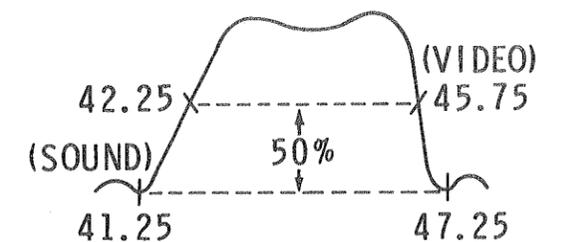

Fig. 12. Video IF response curve.
8. Following the alignment instructions, the adjustments are made in correct order for maximum gain and symmetry of response similar to the typical response curve shown for the TV receiver. A typical response curve with frequencies indicated, is shown in Fig. 12.